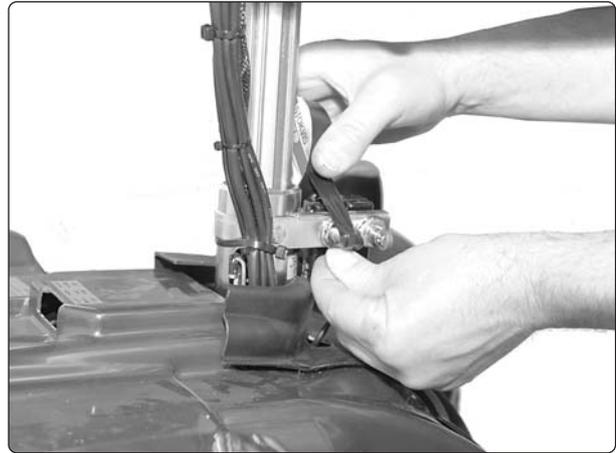

Fig. 78. Activate the switch with tape.
2. On the seat lift, activate the switch that inhibits the standing function by winding tape around it, see fig.78.